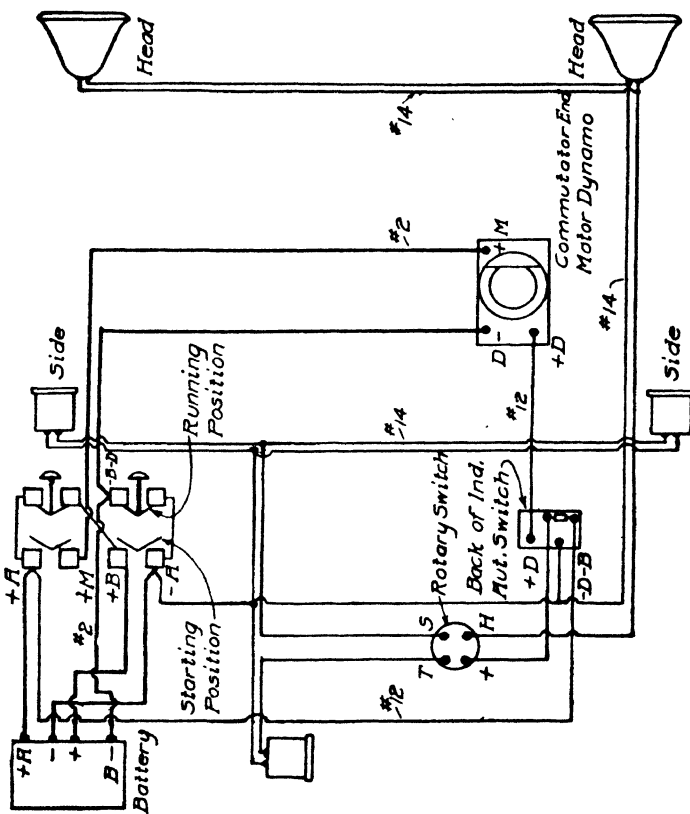

Fig. 325. Wiring Diagram of Splitdorf-Apelco Twelve m Six-Volt Single-Unit Two-Wire System
**Wiring Diagram.** As the lamps are run on 6 volts, the 6-cell battery is connected as two units of 3 cells each for lighting, and these units are connected in series-parallel for charging, as the dynamotor produces current at 6 volts. The remaining details of the connections will be clear in the wiring diagram, Fig. 325.